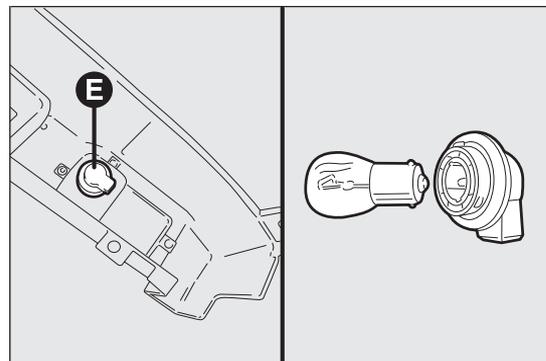

fig. 203
- turn bulb holder E anticlockwise (1/8 of a turn), remove the bayonet-fitted bulb by pushing gently and turning anticlockwise, then replace it fig. 203.